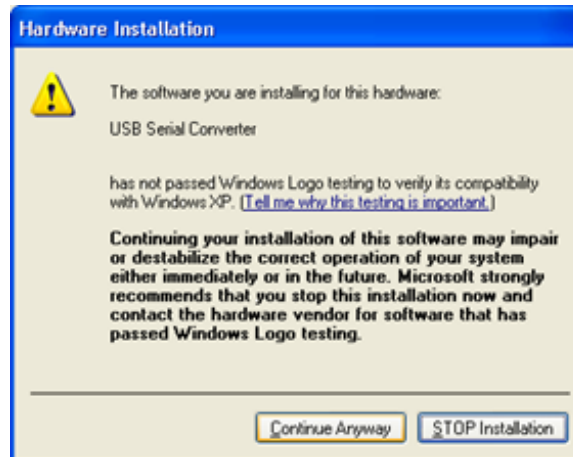

Figure 10: Opt to continue despite the lack of Windows® logo testing
10. If a prompt appears warning about the lack of Windows logo testing, opt to **Continue Anyway**, as shown in *Figure 10*.